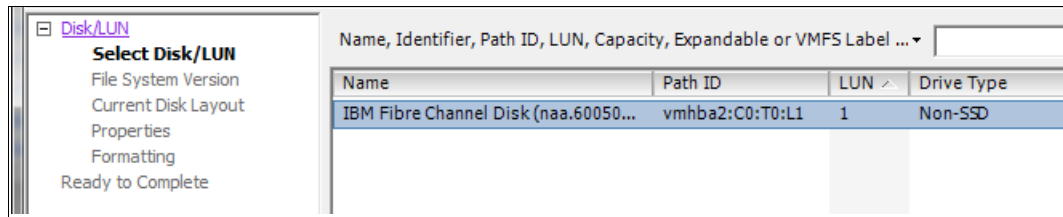

Figure 7-10 Select Disk/LUN
- b. Select the LUN to be used for the datastore from the list in Figure 7-10 and click **Next**.